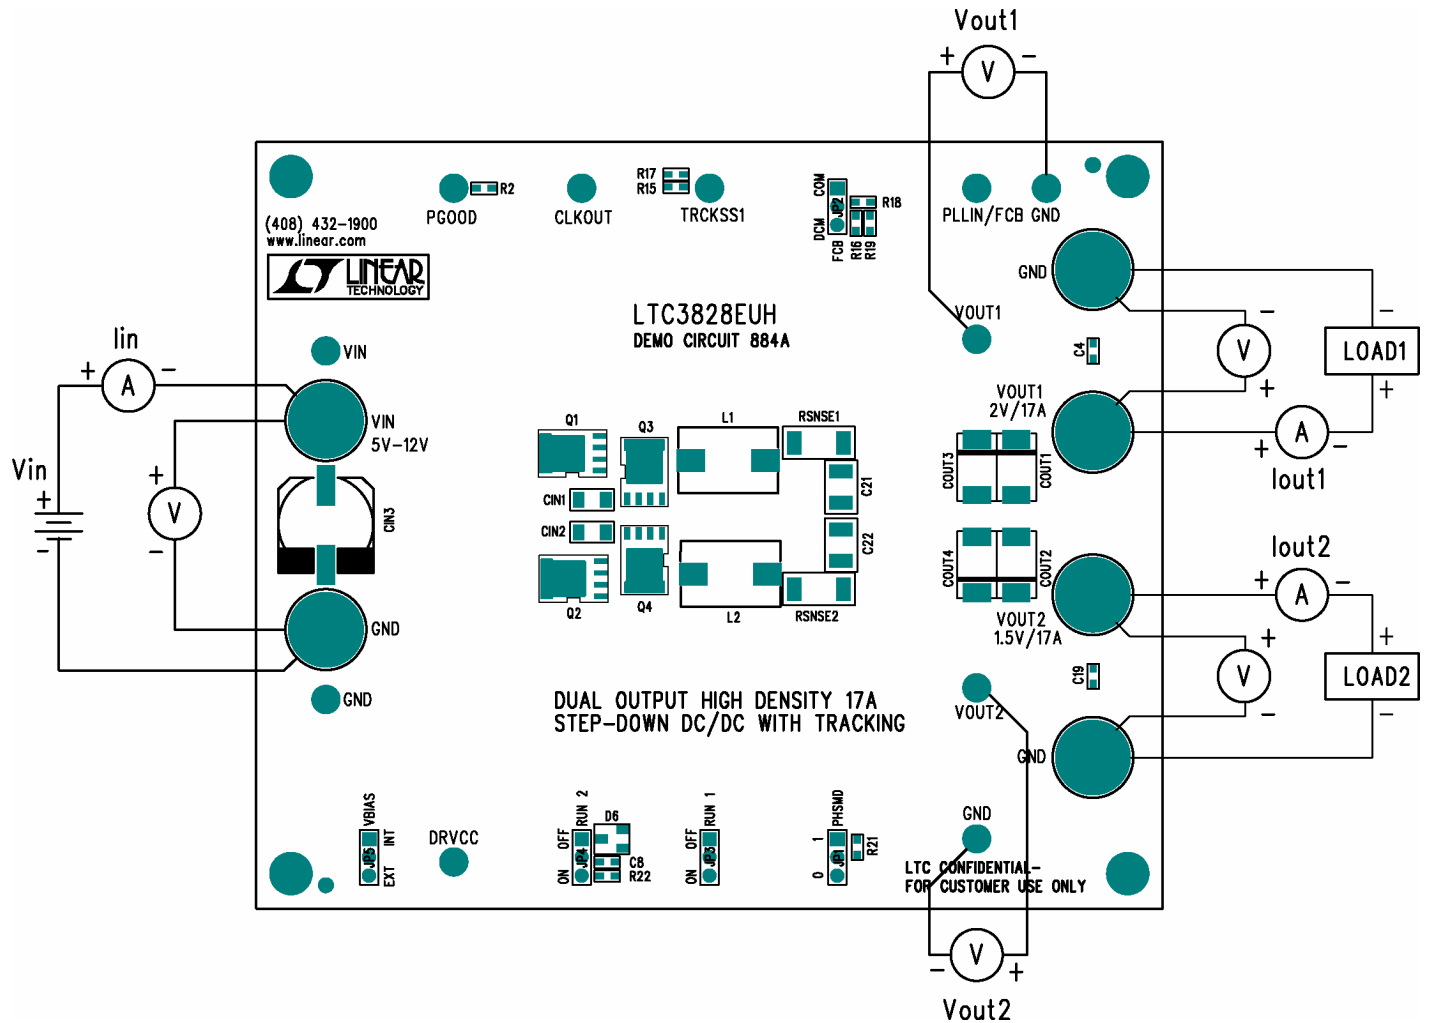

Figure 1. Proper Measurement Equipment Setup
Figure 1 for proper measurement equipment setup and follow the procedure below:
2. With power off, connect the input power supply to VIN and GND. Connect the load between VOUT1, VOUT2 and GND. Preset the load current at 0A (minimum). Refer to Figure 1 for correct test set up.